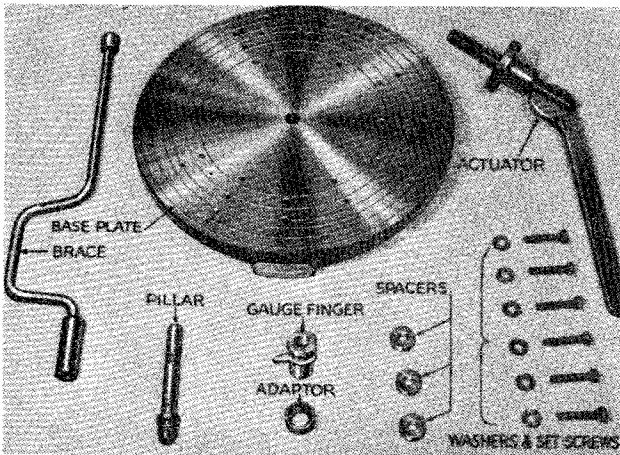

Fig. 7 Clutch Assembly Fixture (Churchill Tool No. 99A) as used with 9" clutch.
26. DISMANTLING THE COVER AS-SEMBLY USING THE CHURCHILL FIXTURE No. 99A (Fig. 7)